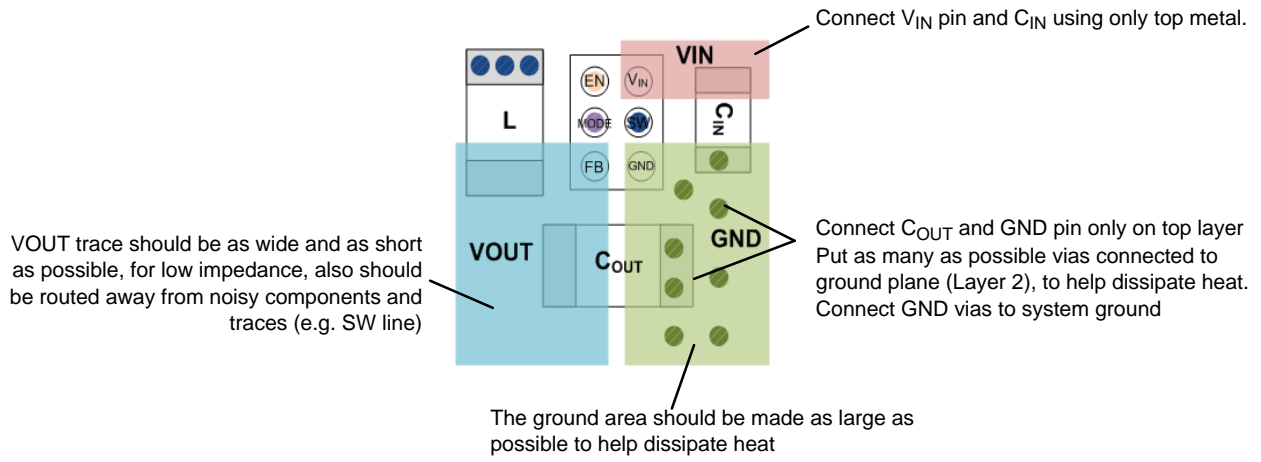

Figure 22. Top Layer
1. The input capacitor (C_{IN}) should be connected as close as possible to the V_{IN} and GND pins. Connect to V_{IN} and GND using only top metal. Do not route through vias (see Figure 22)
2. Place the inductor (L) as close as possible to the IC. Use short wide traces for the main current paths